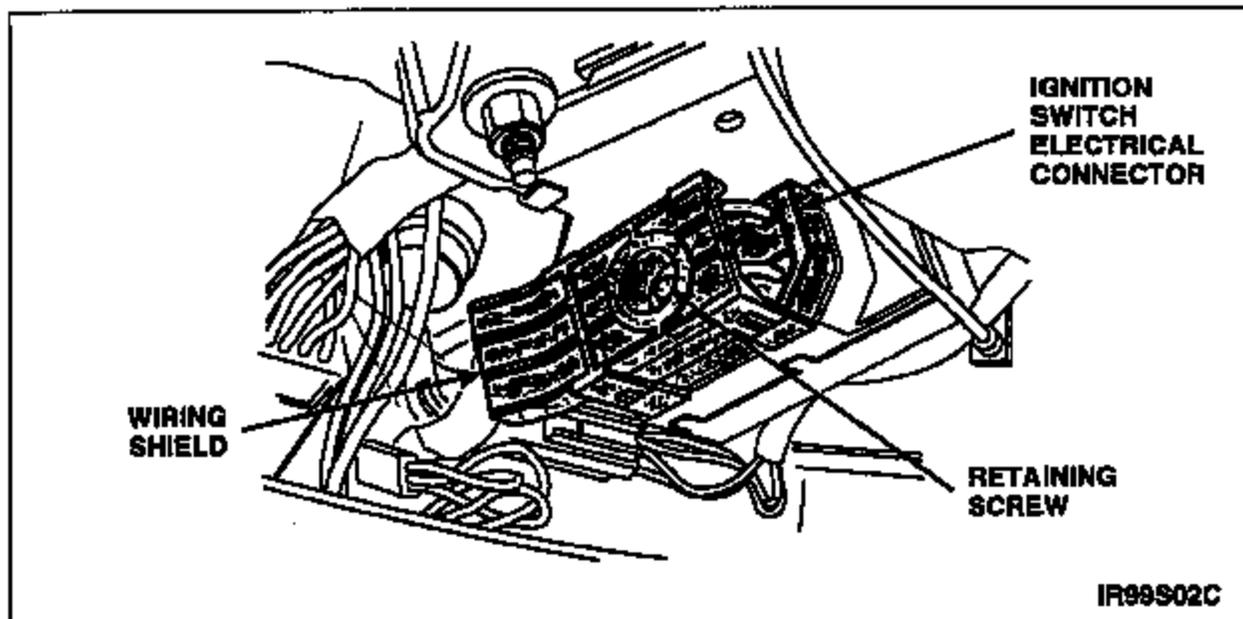

FIGURE 3
5. Completely loosen ignition switch electrical connector retaining screw, then disconnect ignition switch electrical connector. See Figure 3.